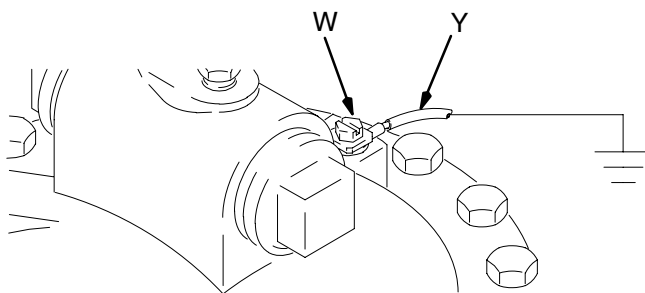

Fig. 1
- *Surge tank:* Connect a ground wire and clamp as shown in Fig. 1. Loosen the grounding screw (W). Insert one end of a 1.5 mm² (12 ga.) minimum ground wire (Y) behind the grounding screw and tighten the screw securely. Connect the clamp end of the ground wire to a true earth ground. Order Part No. 222011 Ground Wire and Clamp.